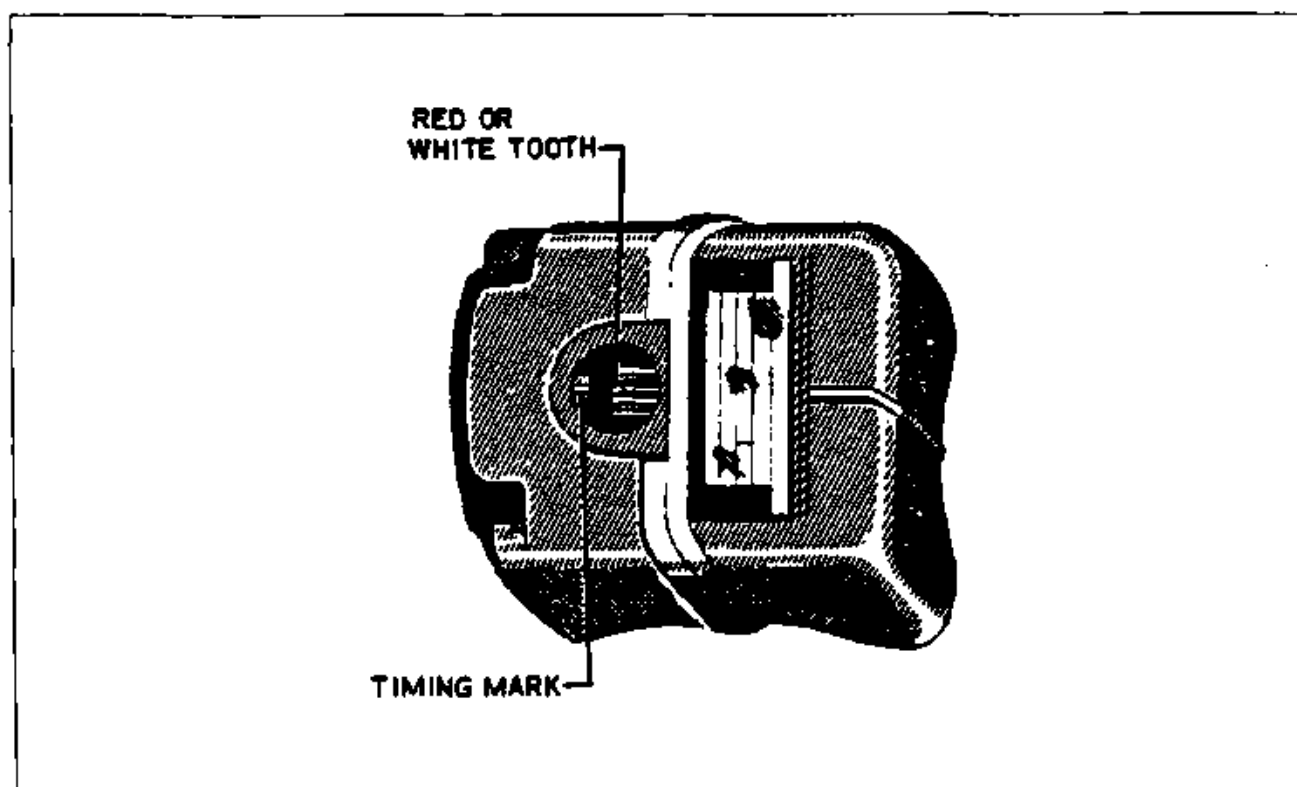

Figure 8-1. Magneto Timing Marks
- c. Rotate coupling from neutral in the direction of rotation 10 degrees. Appearing through timing hole, when the white or red tooth aligns with the white line of the distributor block the magneto is set at "E" gap. (Refer to Figure 8-1.)
- c. Rotate the drive gear on the magneto until the chamfered tooth on the distributor gear inside the magneto aligns with the white pointer as seen through the inspection hole in the magneto housing. (Refer to Figure 8-1 )